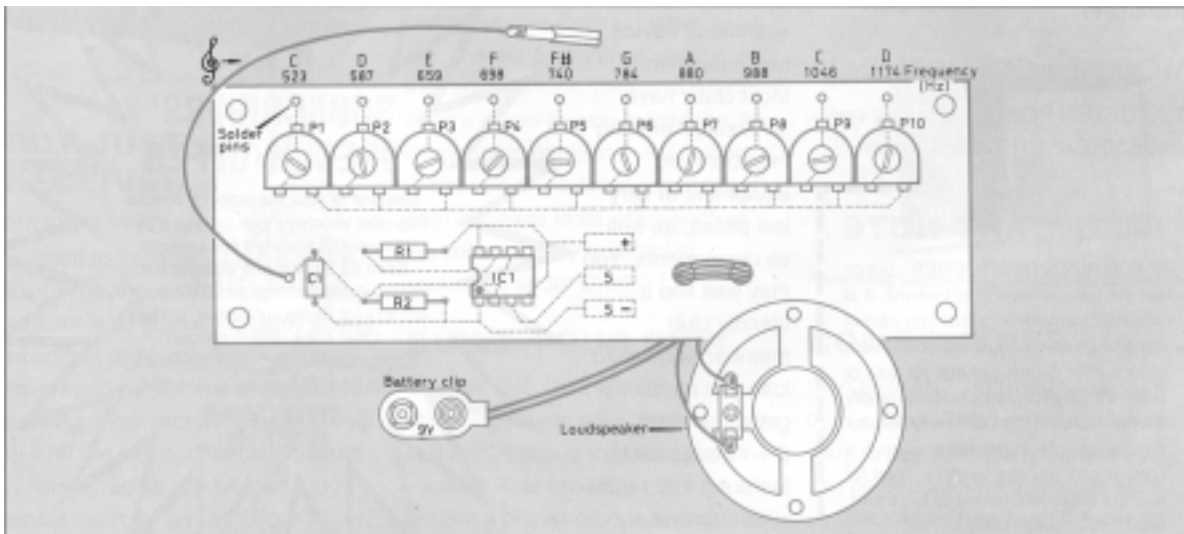
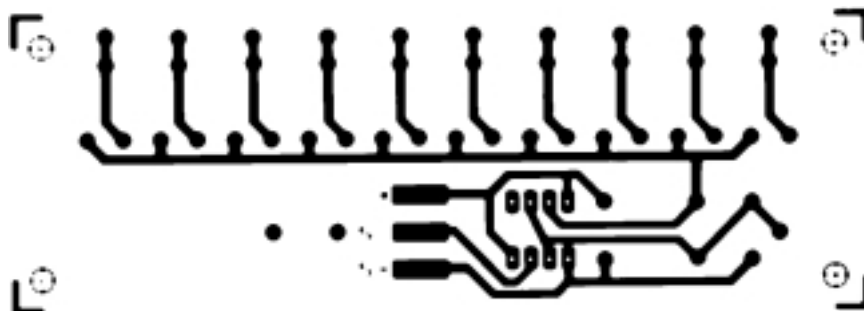
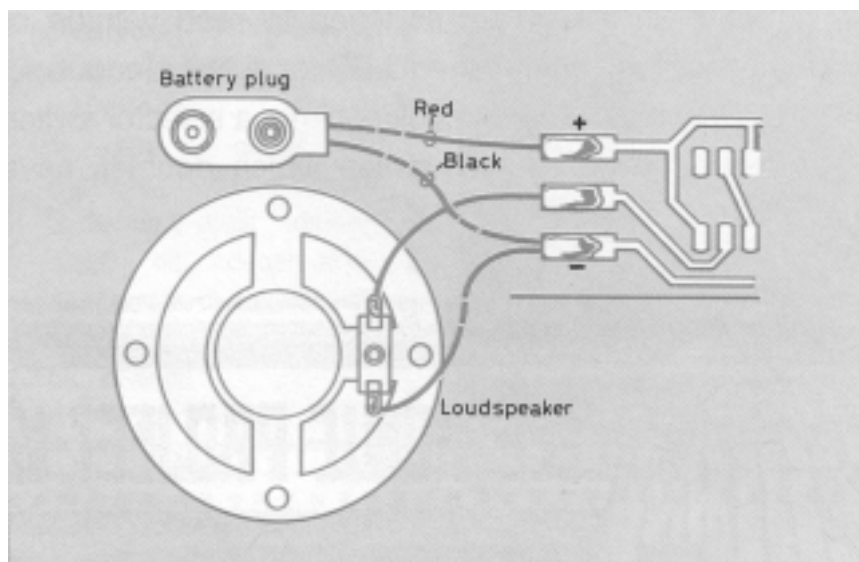

Figure 2 Position of components on the printed circuit board (PCB)
Figure 3 The connections
Figure 4 Battery plug and loudspeaker connections
- (a) Using a PCB. The job is very simple. The placement of components on the unsoldered side of the board is shown in **Figure 2** and the design on the copper track is illustrated in **Figure 3**. Put each component, in turn, on the board, making sure that it lies flat on the board with its tags or wires going cleanly through the holes provided for it; then, solder the wires to the board, cropping them before or after the soldering,
depending on your preference. If you choose to use a holder for your integrated circuit (highly recommended if your soldering is less than perfect), make sure that the end with a notch in it faces R1 and R2, as shown in Figure 2. Solder the two leads to the speaker to the tabs marked S (either way round), having looped them through the two holes to the right of the tabs in Figure 2. Looping them through the holes acts as a strain relief, ensuring that the soldered joints are not subjected to pulling and bending as you move the wires about. Do the same with the battery leads, the red lead going to the + tab and the negative lead to the – tab (which also has one speaker lead already attached to it). **Figure 4** shows this in detail. Treat the loudspeaker with care – the cone is quite fragile and must not be touched.
- (b) Without a PCB. This is more difficult, and you may need to enlist some help. Using some matrix board (such as Veroboard) is probably the best way of replacing the PCB. You could arrange your circuit in exactly the same way as in the PCB in Figure 3, using wires to replace the copper track.
The keyboard is a row of solder pins along the rear edge of the PCB, one for each note covering the range shown in Figure 2. A flying lead with a small spade on it is provided to touch any of the pins in turn, producing any one of ten different notes.